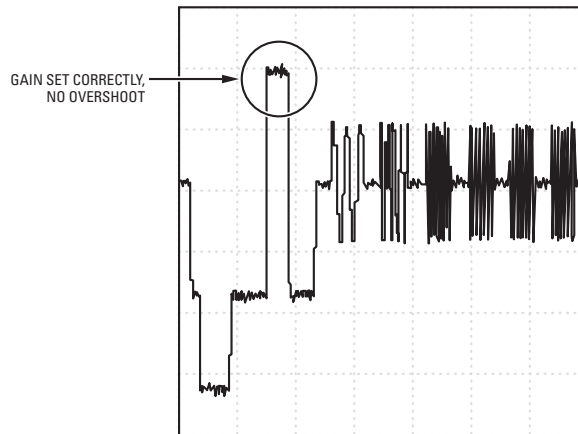

Figure 12. Ideal Black-White Video Signal
5. Turn the rotary switch on the front panel, beginning at position 1, until the video signal on the oscilloscope resembles Figure 12.